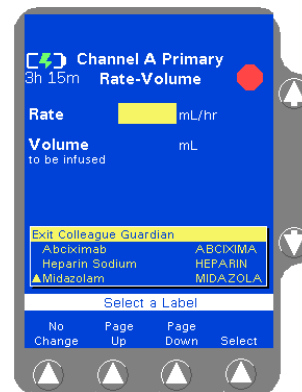

Figure 8 Colleague Guardian Label List
2. Press the **Colleague Guardian** soft key. The labels for which COLLEAGUE GUARDIAN limits have been defined are displayed in a pop-up window (Figure 8).